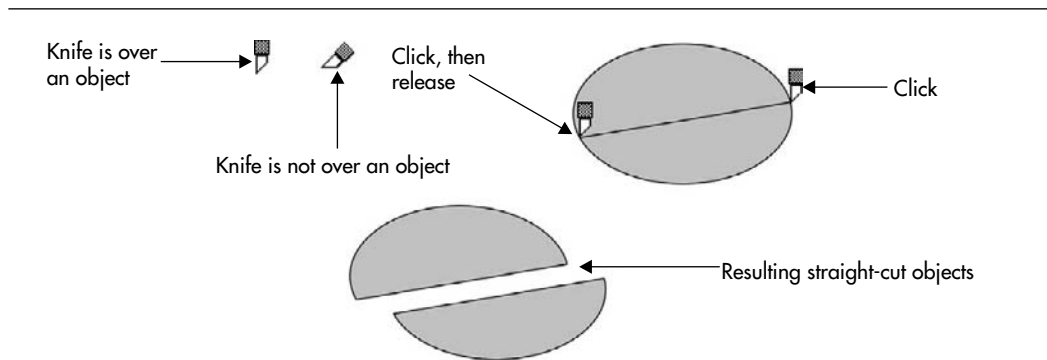

FIGURE 11-4 Click, release, then click to create a Knife Tool straight cut.
- **Straight cuts** If you want to slice an object into two separate shapes as you'd do with a workshop saw, to produce straight lines on sides of both objects, you aim the cursor on the near side of the object, hover until you see it change from an angled cursor to an upright one, click, release the mouse button, and then click on the far side of the object, as shown in Figure 11-4.